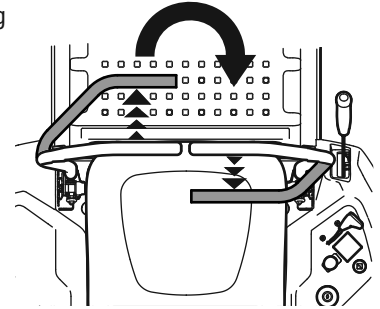

Figure 25
2. To turn clockwise, move the left lapbar drive control lever forward while simultaneously moving the right lapbar drive control lever rearward. See Figure 25.